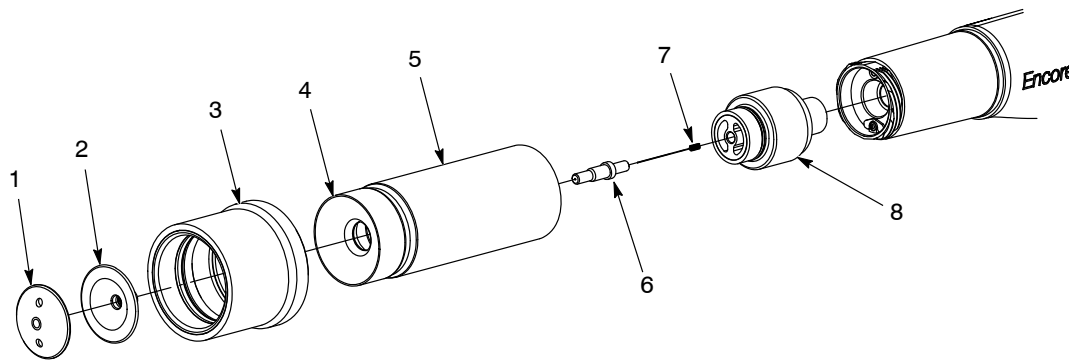

Figure 4-6 Cleaning a Conical Nozzle
1. See Figure 4-6. Hold the deflector (2) with finger while unscrewing the deflector cap (1). Gently pull the deflector off the electrode holder (6).
2. Unscrew the nozzle nut (5) and remove the conical nozzle(4), and pattern adjuster sleeve (3) from the spray gun.